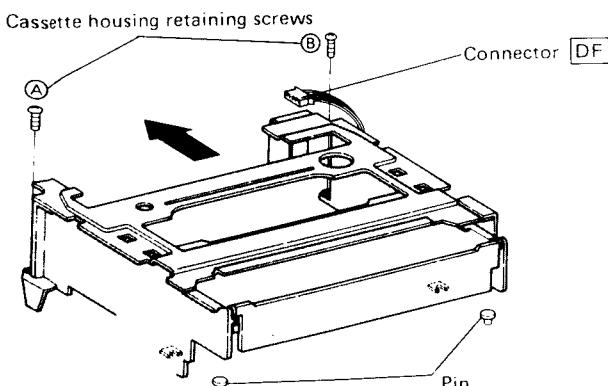

Fig. 3-3
- 5) Disconnect connector [DF], as shown in Fig. 3-3.
- 7) Remove the two screws (① and ②) retaining the cassette housing as shown in Fig. 3-3.
- 1) Set the positioning U-holes at the right and left front of the cassette housing side onto the pins at the front side of the main transport plate, refer to Fig. 3-3, then slide the cassette housing inside to the point where the holes for the housing screws are matched to the screw holes on the main plate.